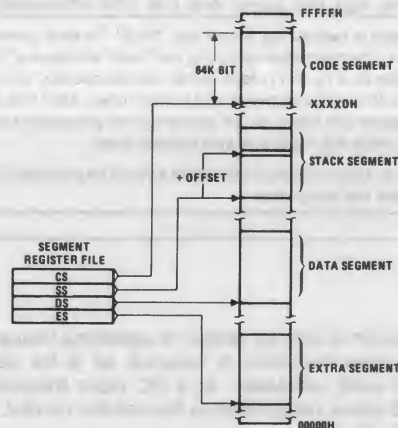

FIGURE 1. 80C86 MEMORY ORGANIZATION
The processor provides a 20-bit address to memory, which locates the byte being referenced. The memory is organized as a linear array of up to 1 million bytes, addressed as 00000(H) to FFFFF(H). The memory is logically divided into code, data, extra and stack segments of up to 64K bytes each, with each segment falling on 16-byte boundaries. (See Figure 1).